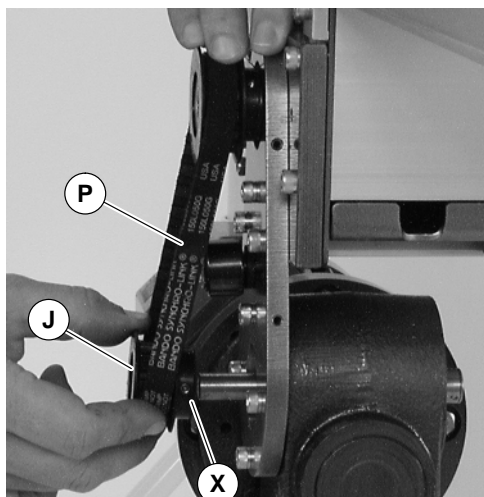

Figure 14
**NOTE:** If drive pulley (J of Figure 14) is replaced, wrap timing belt around drive pulley and complete step 3.
3. Loosen drive pulley set screws (X of Figure 14). Remove drive pulley (J) and timing belt (P).
**NOTE:** Drive pulley (J of Figure 14) is removed. Wrap timing belt around drive pulley and complete step 13.